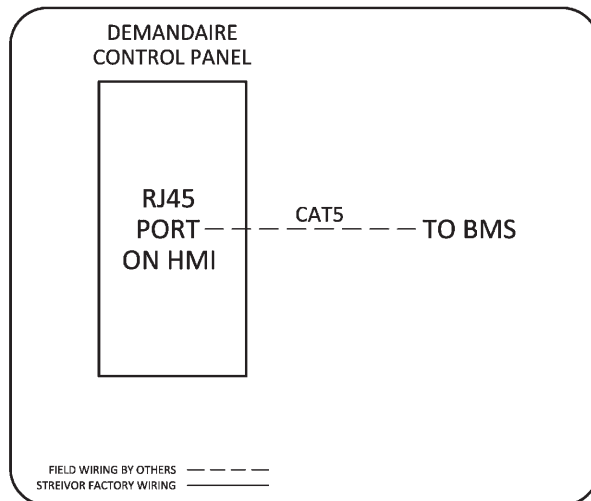

FIGURE 14: Optional Modbus TCP Communication Wiring
- A CAT5 or greater Ethernet communication cable may be connected to the RJ45 port on the HMI in the control panel for Modbus TCP communication with Building Management System(s) (Figure 14).